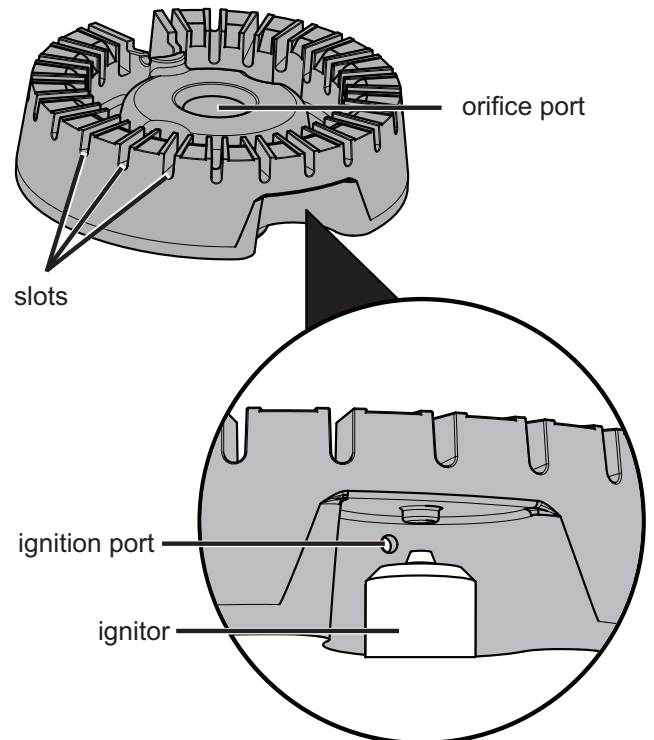

Figure 22: Cooktop cleaning
5. Use a needle or fine wire to clean out the ignition port (see Figure 22).